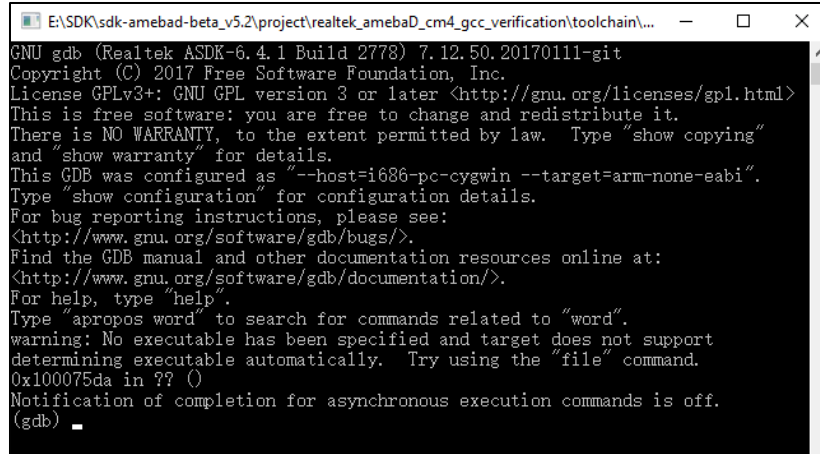

Fig 1-28 Debug window under Windows
- For Windows, a popup window will display, as shown in Fig 1-28.